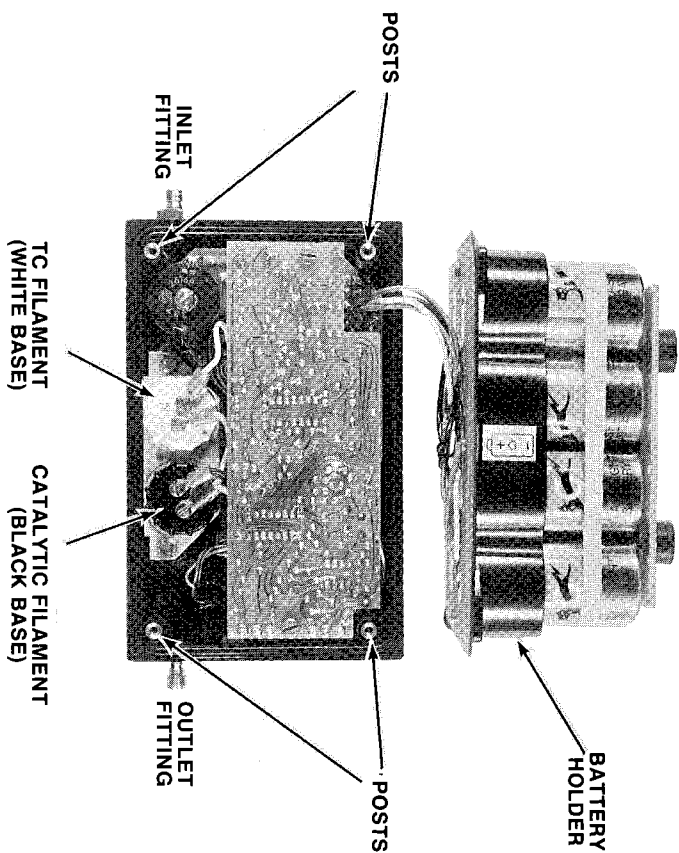

Figure 4-1. Location of Filaments
LEAK CHECKS. To check for leaks in the sampling system, seal the inlet fitting with a finger of the left hand and squeeze the aspirator bulb. Then immediately seal the outlet of the aspirator bulb with a finger of the right hand. If the bulb remains deflated while the inlet fitting and the bulb outlet are sealed, the system is free of leaks. If it inflates, a filament seal, the aspirator bulb or gasket on the inlet or outlet fitting of the instrument is leaking. Check the filament seals first by opening the case and tightening both filaments, Figure 4-1. Repeat the leak check described above; if the bulb still inflates, then check the gaskets and bulb. To check the aspirator bulb for leakage, seal the inlet fitting with a finger and squeeze the bulb. If the bulb inflates in less than 6 seconds, obtain a replacement bulb.
2. Invert instrument and place it on its cover. Turn instrument so that inlet and outlet fittings are positioned as shown in Figure 4-1. Lift off bottom section of case.
3. Remove four screws and lockwashers securing battery holder to posts, Figure 4-1. Lift off battery holder and place it on its side as shown.
4. Remove two screws securing lugs on filament wires to black base, Figure 4-1.
2. Invert instrument and place it on its cover. Lift off bottom section of case. Turn instrument so that inlet and outlet fittings are positioned as shown in Figure 4-1.
4. Remove two screws securing lugs on filament wires to white base, Figure 4-1.
5. Remove two screws securing lugs on filament wires to black base, Figure 4-1.
15. Insert filament having black base in well nearest outlet fitting. Tighten filament by turning base clockwise so that its gasket is firmly seated against block. See Figure 4-1.